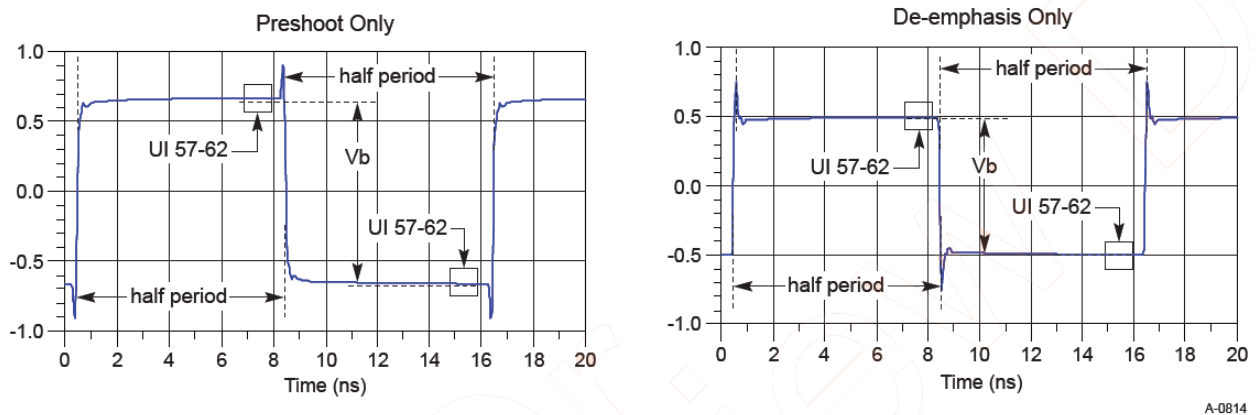

Figure 192 Waveform measurement points for preshoot and de-emphasis
8.0 GT/s, 16.0 GT/s and 32.0 GT/s PCIe signaling must support the full range of presets given in Table 8-1 (PCIe Base Specification Revision 5.0). Presets are defined in terms of ratios, relating the pre-cursor and post-cursor equalization voltages. The pre-cursor (V_c) is referred to as pre-shoot, while the post-cursor (V_b) is referred to as de-emphasis. This convention permits the specification to retain the existing 2.5 GT/s and 5.0 GT/s definitions for Tx equalization, where only de-emphasis is defined, and it allows preshoot and de-emphasis to be defined such that each is independent of the other. The tolerances in Table 8-1 (PCIe Base Specification Revision 5) also apply to 2.5 and 5.0 GT/s de-emphasis. The maximum swing, V_d , is also shown to illustrate that, when both c_{+1} and c_{-1} are nonzero, the swing of V_a does not reach the maximum as defined by V_d . The high frequency nature of PCIe signaling makes measurement of single UI pulse heights impractical. Consequently all amplitude measurements are made with low frequency waveforms as shown in Figure 192